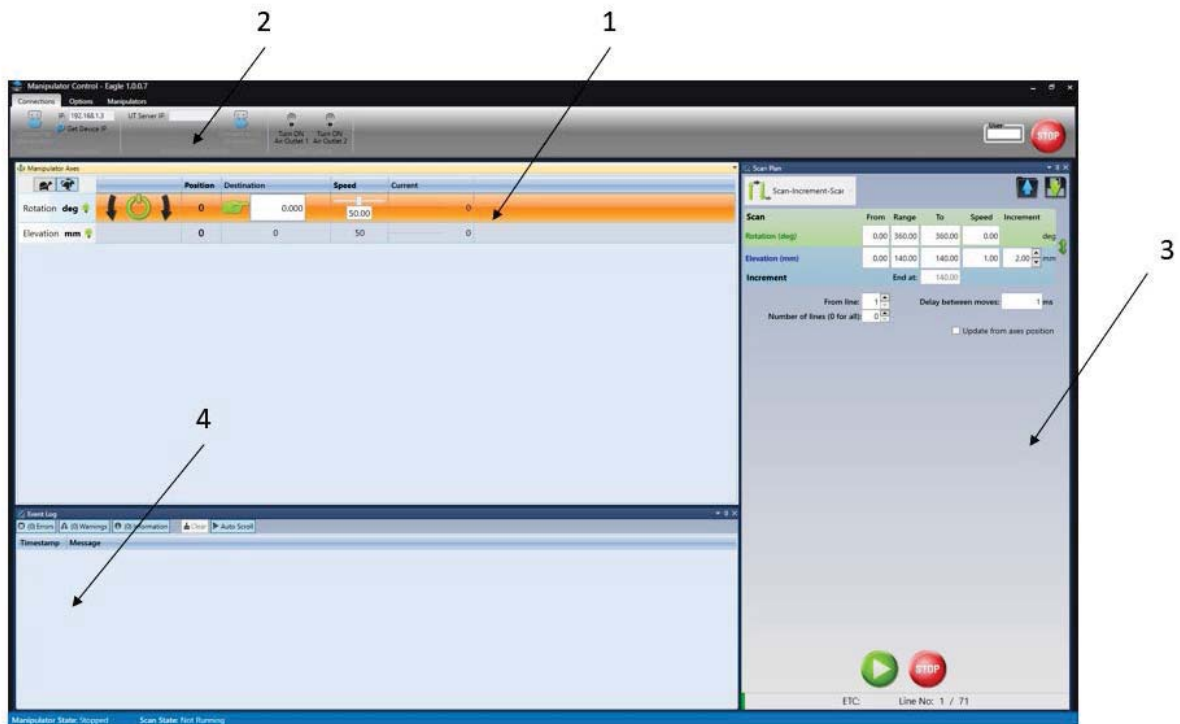

Figure 4. Manipulator Control Software
Manipulator Control software (MC) controls the whole system during inspection process. MC, in general, is a software package created for control of the INETECs manipulators. The same software in different configurations runs different manipulators (*Figure 4*).